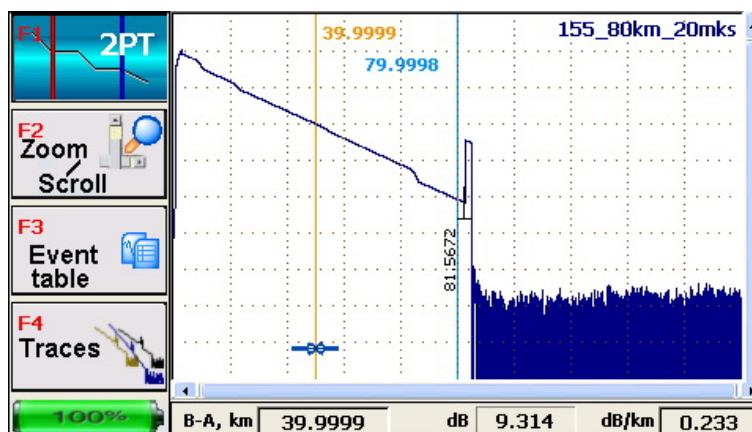

Figure 7.2
7.1.2 After the first measurement or opening a trace from storage memory next window will appear on the screen – **the main window of the OTDR program** shown in **Figure 7.2**.
- the main window is shown on the screen (see **Figure 7.2**); the green strip at the bottom part of the screen shows time past before the measurement start;